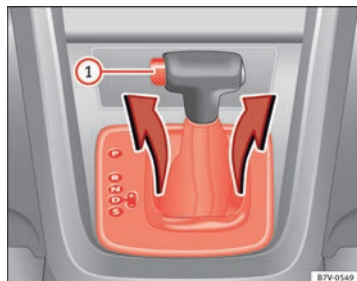

Fig. 197 Remove the lining from the area of the gear indication.
- Pull the cover up around the dust guard on the gear selector lever ⇒ fig. 197.
- Press the lock button ⇒ fig. 197 ① on the gear selector lever knob and place the gear selector lever in the **N** position.